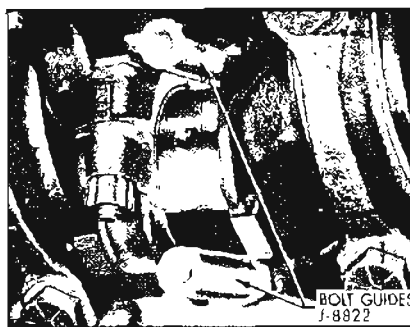

Figure 2-44—Connecting Rod Bolt Guides Installed
4. Remove cap and bearing shell from number 1 connecting rod. Install connecting rod bolt guides on the bolts to hold the upper half of the bearing shell in place. See Figure 2-44.